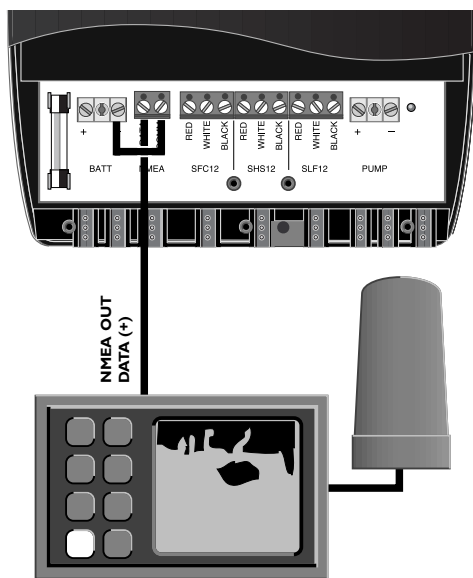

Fig 4.20 - Connecting using NMEA interface : no Common (-) wire
- If the equipment does not have a NMEA Common (or -) connection, the NMEA Common terminal of the SCP12 course computer should be connected to ground by linking it to the BATT - terminal (Fig 4.20).